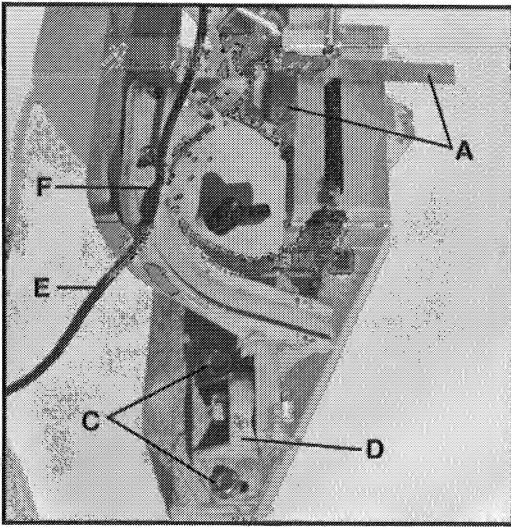

Fig. 9
2. With the saw arm in the down position, place a square (A) Fig. 9, against the fence and the saw blade and check to make certain the blade is at 90 degrees to the stationary fence (B). If an adjustment is necessary, slightly loosen the two bolts (C) and rotate the hinge assembly (D) on the base until the blade is at 90 degrees to the fence (B). Then tighten the two screws (C).
5. Pass cordset (E) over top of saw and insert into slot (F) of arm, as shown in Fig. 9.